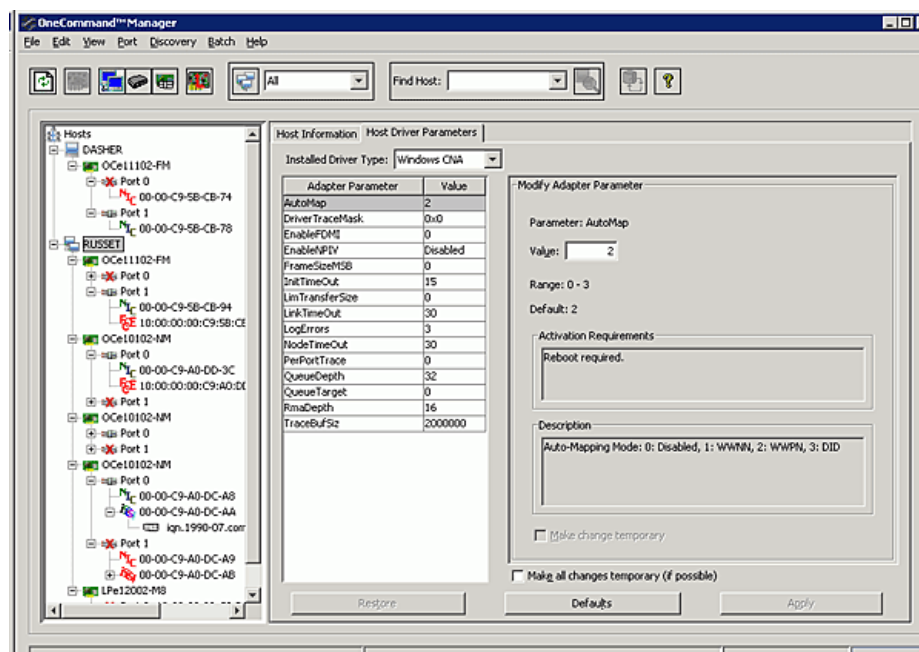

Figure 8-30 Host Driver Parameters Tab
The Host Driver Parameters tab (Figure 8-30 on page 156) enables you to view and edit the adapter driver parameter settings contained in a specific host. The host driver parameters are global values and apply to all adapters in that host unless they are overridden by parameters assigned to a specific adapter using the adapter Driver Parameters tab. For each parameter, the tab shows the current value, the range of acceptable values, the default value, and whether the parameter is dynamic. A dynamic parameter allows the change to take effect without resetting the adapter or rebooting the system.
**Note:** If there are no discovered FC or FCoE functions, the entire Host Driver Parameters tab (Figure 8-30 on page 156) is grayed-out. This occurs because there are no drivers to which the host driver parameters apply.